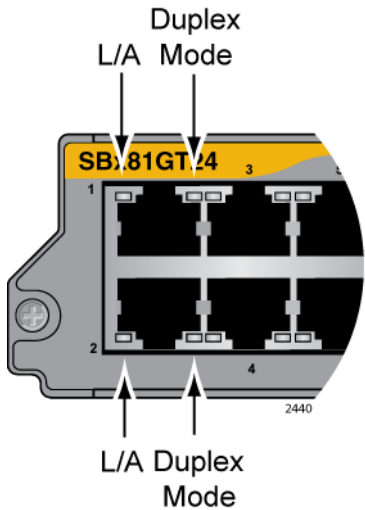

Figure 16. Port LEDs on the AT-SBx81GT24 Line Card
**AT-SBx81GT24 Line Card** Each port on the AT-SBx81GT24 Line Card has two LEDs. The LEDs are shown in Figure 16 and described in Table 5.